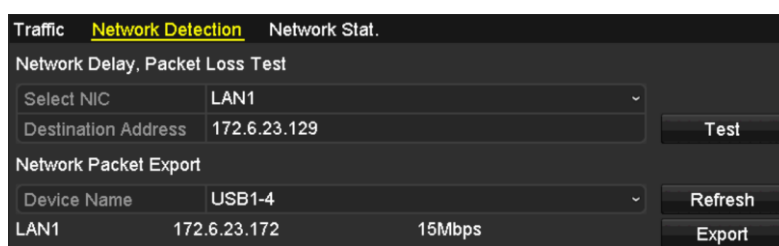

Figure 9-22 Network Detection Interface
Step 2 Click the **Network Detection** tab to enter the Network Detection menu, as shown in Figure 9-22.